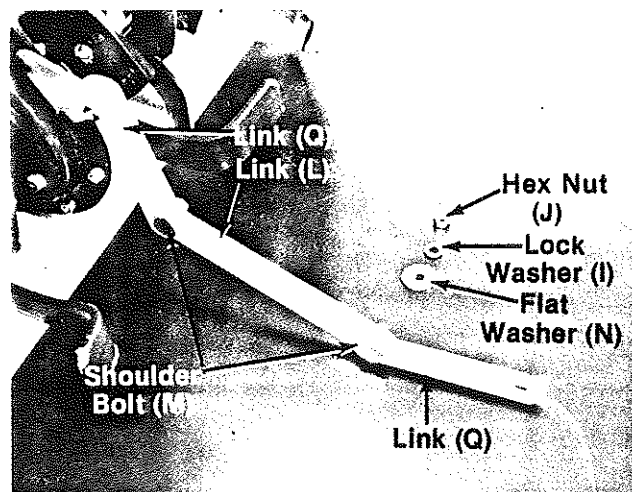

FIGURE 6.
5. Place shoulder bolt (M) through the opposite end of link (Q) and one end of link (L). Place flat washer (N) over shoulder bolt and secure with lock washer (I) and hex nut (J). See figure 6.
6. Repeat the above procedure to assemble the other link (Q) to the opposite end of link (L). See figure 6.